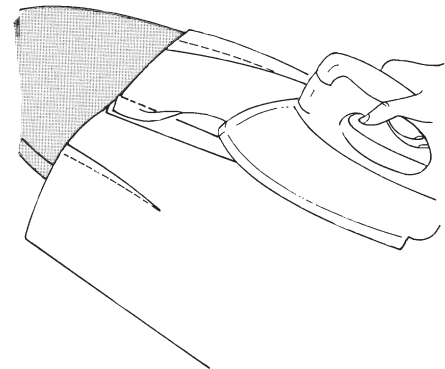

Fig. 7-1
6. Always press seams and darts before other seams are stitched across them. This helps reduce bulk and prevents a lumpy appearance in the finished garment. (Fig. 7-1)